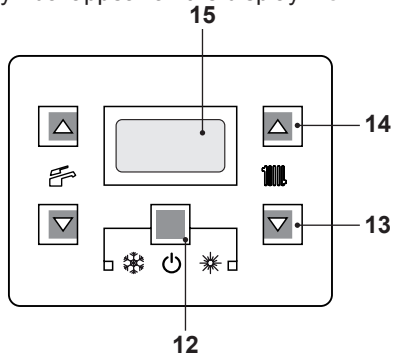

Fig. 7.10
- Press the 12 key for 2 seconds until  symbol appear on the display Fig. 7.10.
- Switch off the boiler by pressing the 12 (Fig. 7.10) key for 2 seconds until the  symbol appears on the LCD display (Fig. 7.9).
- Press the 12 key for 2 seconds until  symbol appear on the display Fig. 7.10. The LCD display displays the boiler temperature (primary circuit) and the  symbol; the °C symbol slowly flashes Fig. 7.11.
Press the reset key on the boiler control panel 12 (Fig. 7.10) to reset its functioning.